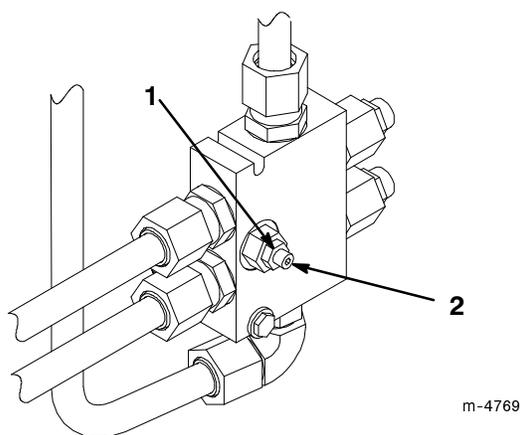

Figure 15
3. Loosen the jam nut on each tow valve (Fig. 15).
Note: The valves are located inside the frame, one on each side of the traction unit, towards the rear of the unit. Figure 15 illustrates the left side valve.